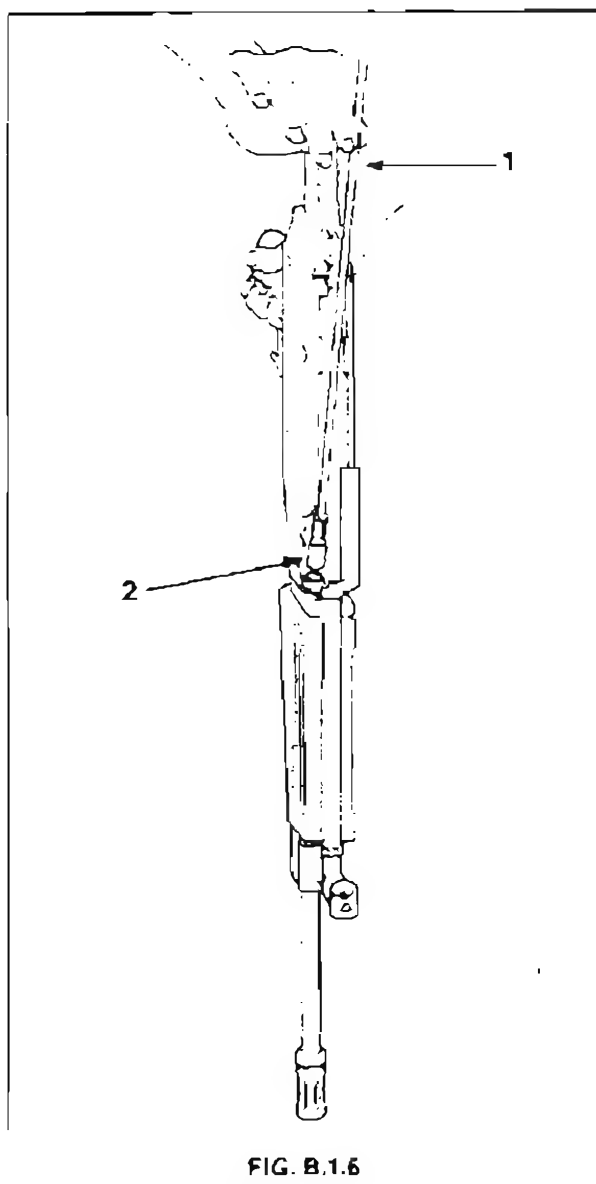

FIG. B.1.6
8. A barrel is serviceable if the bore gauge $\Phi 5.573$ mm passes freely through barrel bore (gauge assembled to handle), when inserted from chamber end, with barrel held vertical. See Fig. B.1.6.